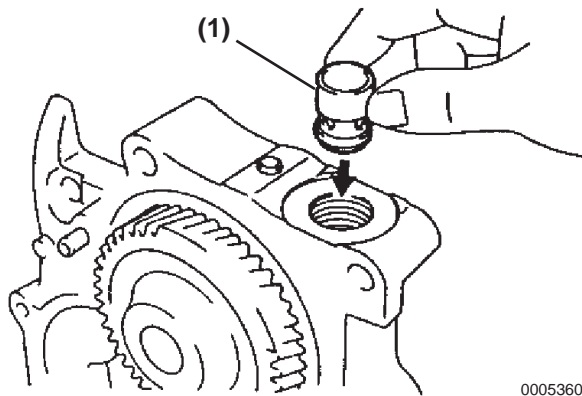

Figure 8-8
3. Inspect the relief valve (**Figure 8-8, (1)**) by applying engine oil to the valve and check if it falls into the valve hole smoothly by its own weight. If not, replace the relief valve. If needed, replace the oil pump assembly.